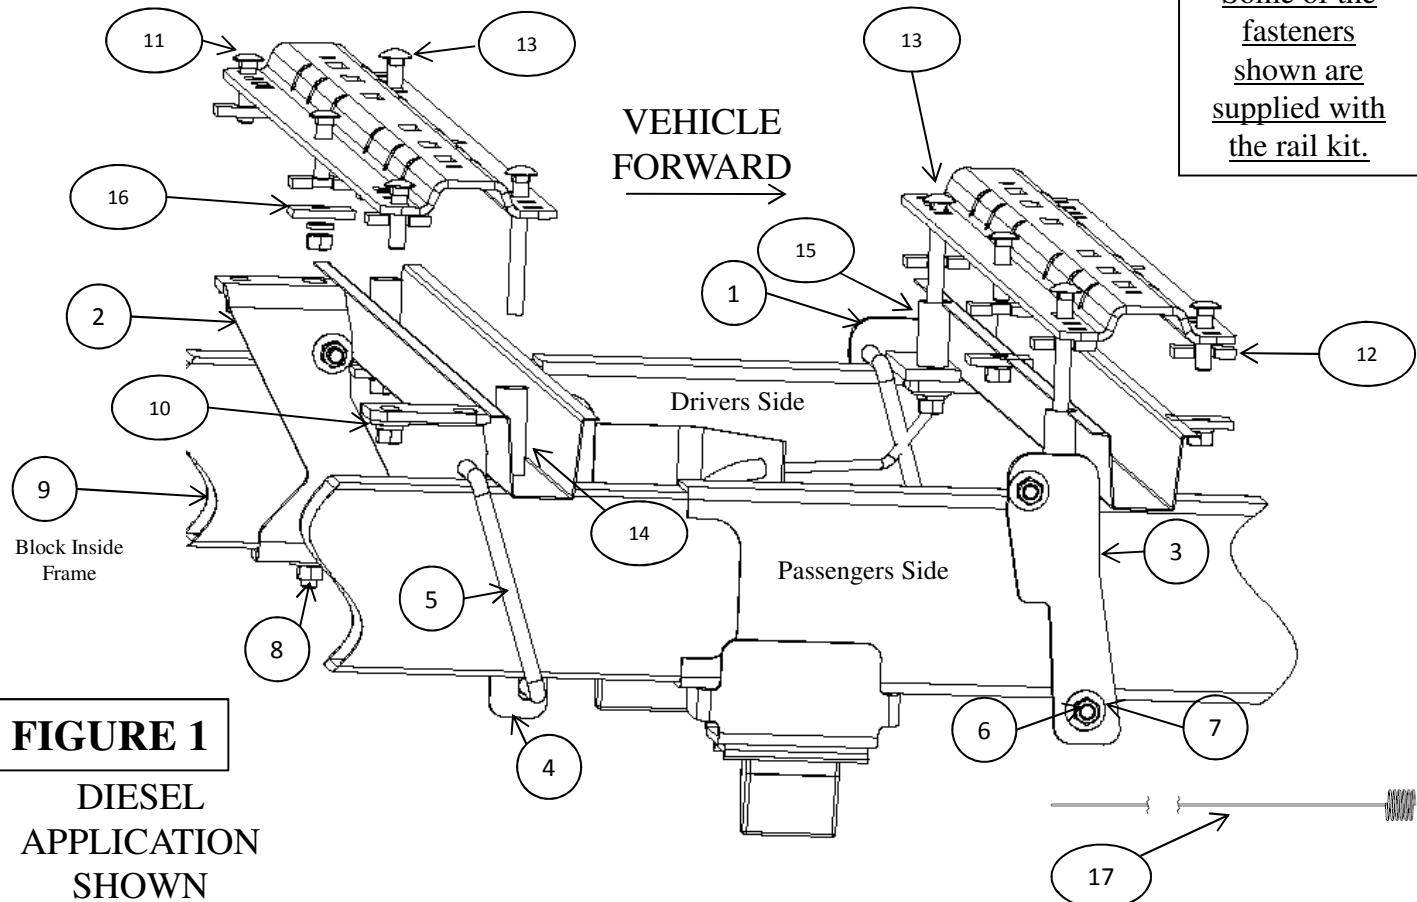

FIGURE 1
5. Temporarily position the frame brackets (2) and (4) on the inside of the frame as shown in Figure 1 and 2 and check that the 1/8in. drilled holes align with the slots of the frame bracket. Remove the frame bracket from the vehicle if the holes align. If not, adjust the 1/8 in. holes so that they do align.
- a) Place the rear brackets (2) (4) on the inside of the frame as shown in Figures 1 and 2.
- b) Install a u-bolt (5) on each of the brackets. The u-bolt wraps around the outside of the frame, right behind the rear bed support. Loosely install 1/2 in. conical washers (7) and hex nuts (6) onto the ends of the u-bolts.
- c) For the drivers side rear only, feed a 1-3/4 in. carriage bolt (8) and 1 in. x 3 in. block (9) into position in the slot on underside of frame using a pull wire. There is a round hole in the inside of the frame that can be used to feed the hardware. Loosely fasten the carriage bolt (8) with 1/2 in. conical washer (7), lock washer (10) and hex nut (6).
8. Place the two 2.75" long tube spacers (14) in the forward holes and reposition the mounting rail over the holes.
9. Install the 1/2 in. x 2 in. long carriage bolts (11) through rear rail, u-shaped spacers (12) (above or below bed depending on corrugation), and rear holes of the rear brackets (2) (4). **NOTE: The u-spacers may need to be installed beneath the bed and above the frame bracket if you are drilling into the raised area of the bed corrugation.** Install lock washers (10) and nuts (6) on the bolts (11). Snug nuts up by hand.
10. Install the 1/2 in. x 4-1/2 in. long carriage bolts (13) down through front holes in rear rail, spacer tube, and in the holes of the bed support. Install the 1-1/2 in. x 2 in. block (16) with lock washers (10) and nuts (6) on the bolts (13). Snug nuts up by hand.